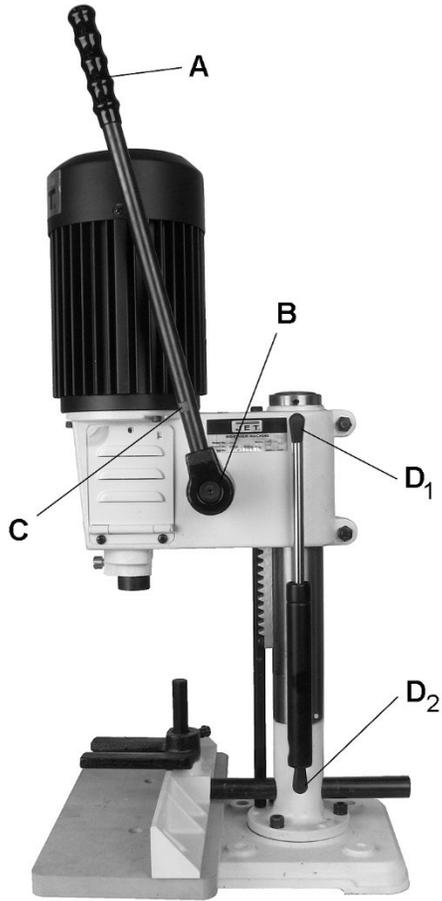

Figure 8-1
1. Screw handle (A, Figure 8-1) into clutch block (B, Figure 8-1).
2. Tighten handle. The handle has a notch (C, Figure 8-1) to accommodate a wrench.
4. With head in the up position, press the hydraulic cylinder onto the two fittings. The upper fitting (D1, Figure 8-1) is located on the head. The lower fitting (D2, Figure 8-1) is on the column.